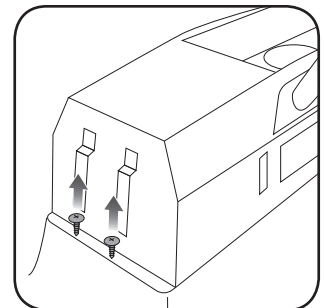

Fig. 1.8
8. Remove (2) Philips screws at the rear base of the center console. (Fig. 1.8)